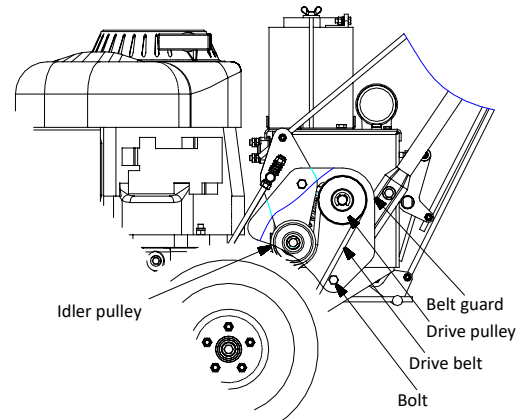

FIG 12.
- Control rod adjustment: Remove the pin on the top of the control rod, pull the control rod out of the steering lever, turn the control rod so that the length of the two control rods is the same, and reinstall all parts in the correct order. (See FIG 12)
- When the mower pulls to the left or right or does not operate straight under normal conditions, the steering linkage on the left, right, or both sides must be adjusted. See FIG 12.